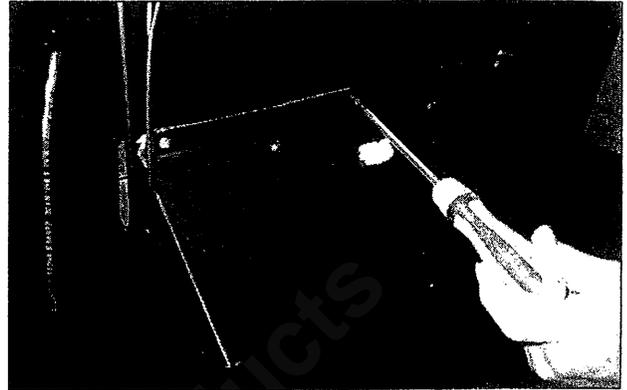

Figure 17c
3. Install the blower in the backshield by hooking the bottom of the blower housing into the opening and rock the top of the blower forward. Fasten the BK95 in place with the screws included in the fastener pack. See Figure 17c.